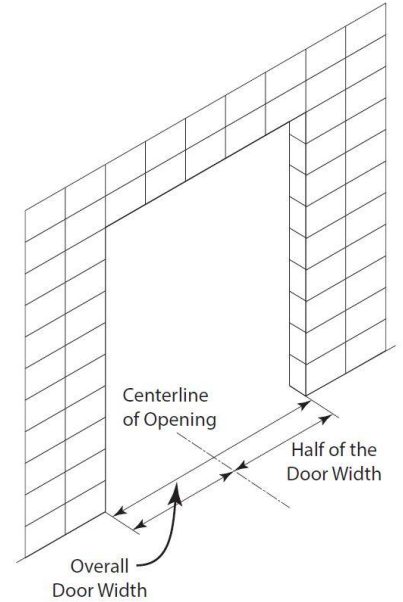

Figure 4
1. Measure the width of the door opening (Figure 4).